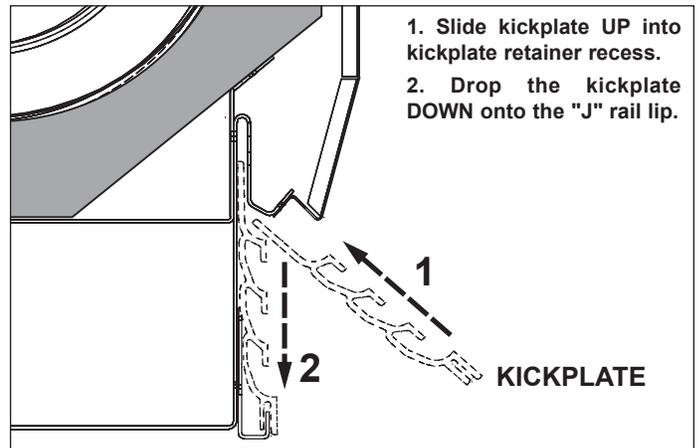

Fig. 8 Kickplate installation
12. Insert top of kickplate into the kickplate retainer. Slide the kickplate up into the retainer, then down onto the "J" rail (Fig. 8). Be certain that the bottom of the kickplate is fitted over extruding "lip" of the "J" rail.